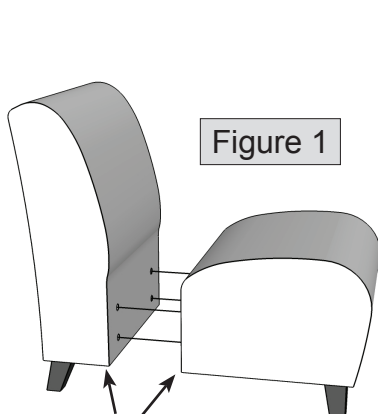

Figure 1
2. Attach seat to back using 2" bolts and washers into threaded inserts, as shown in figures 1 and 2. Keep bolts slightly loose for now.